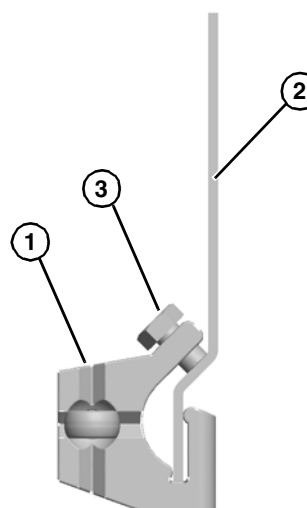

Figure 41
1. Clamp mounting block (**Figure 41, item 1**) to frame (**Figure 41, item 2**).
2. Tighten bolt to 20 in-lb (2 Nm) (**Figure 41, item 3**) to secure.